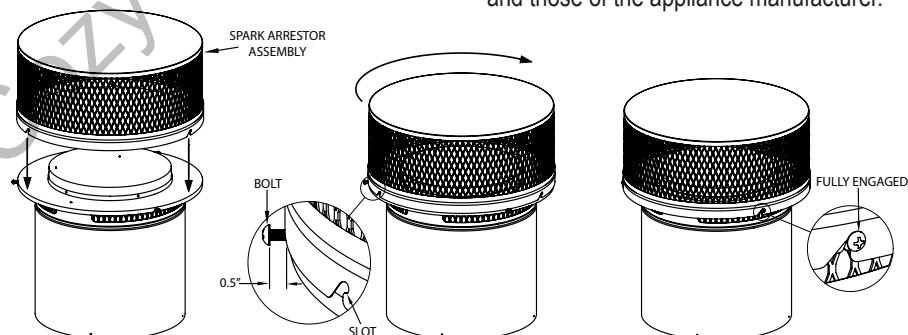

Figure 19
4. How to Clean: Have your chimney cleaned by a professional Certified Chimney Sweep if you have doubts about your ability to clean it. Use a plastic, wood, or steel brush. Do not use a brush that will scratch the stainless steel liner of your chimney. Scrub the spark arrestor with a wire brush. To remove the Spark Arrestor Assembly for cleaning, loosen the three bolts that attach it without fully removing them, then twist it counter-clockwise while lifting upwards. To reinstall (**Fig. 19**), lower the spark arrestor assembly onto the three loosened bolts (without aligning the slots and bolts), then twist the spark arrestor assembly